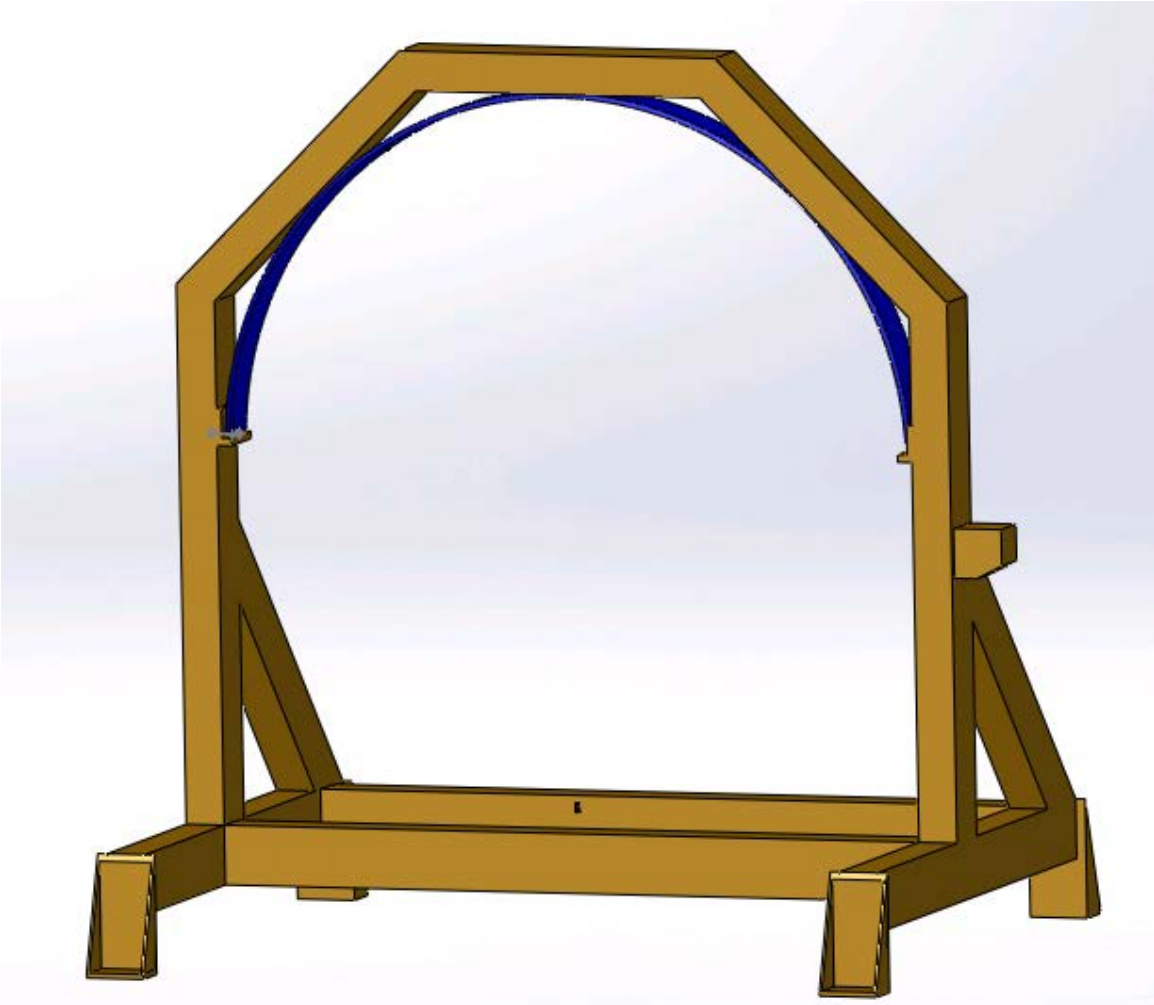

Figure 17: Baffle Alignment/Balance Fixture
4. Then, mount the Blade/Bracket/Bend Fixture assembly to the block on the vertical side of the Manifold Cryopump Baffle Alignment/Balance Fixture (D1002675) with four (D1300645), #1/2-13 FHCS modified screws (item 5), refer to Figure 17.